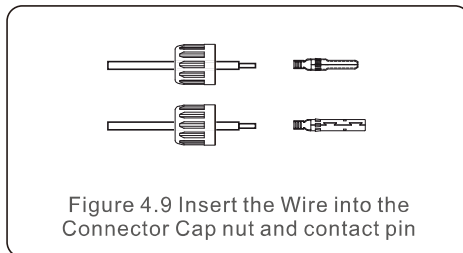

Figure 4.9 Insert the Wire into the
2. Insert the wire into the connector cap nut and contact pin. (see Figure 4.9)